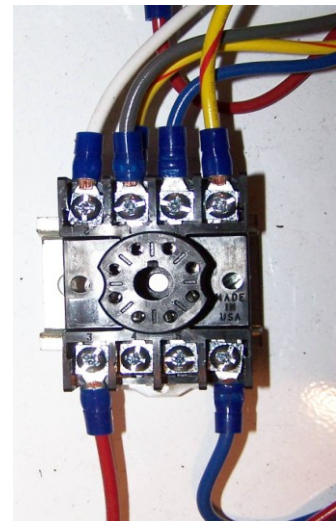

Figure 5
STEP 6 - A: Install the new relay socket on the din rail (Figure 5). The new socket has a White and Yellow/Red wires installed for the relay coil.
D: Reconnect the paired Gray and Yellow/Red wires to the upper socket terminal to the right of the White wire (Figure 5).
E: Reconnect the upper Blue wire to the upper socket terminal to the right of the paired Yellow/Red and Gray wires (Figure 5).
F: Reconnect the Red wire to the lower left socket terminal (Figure 5).
G: Reconnect the lower Blue wire to the lower right socket terminal (Figure 5).